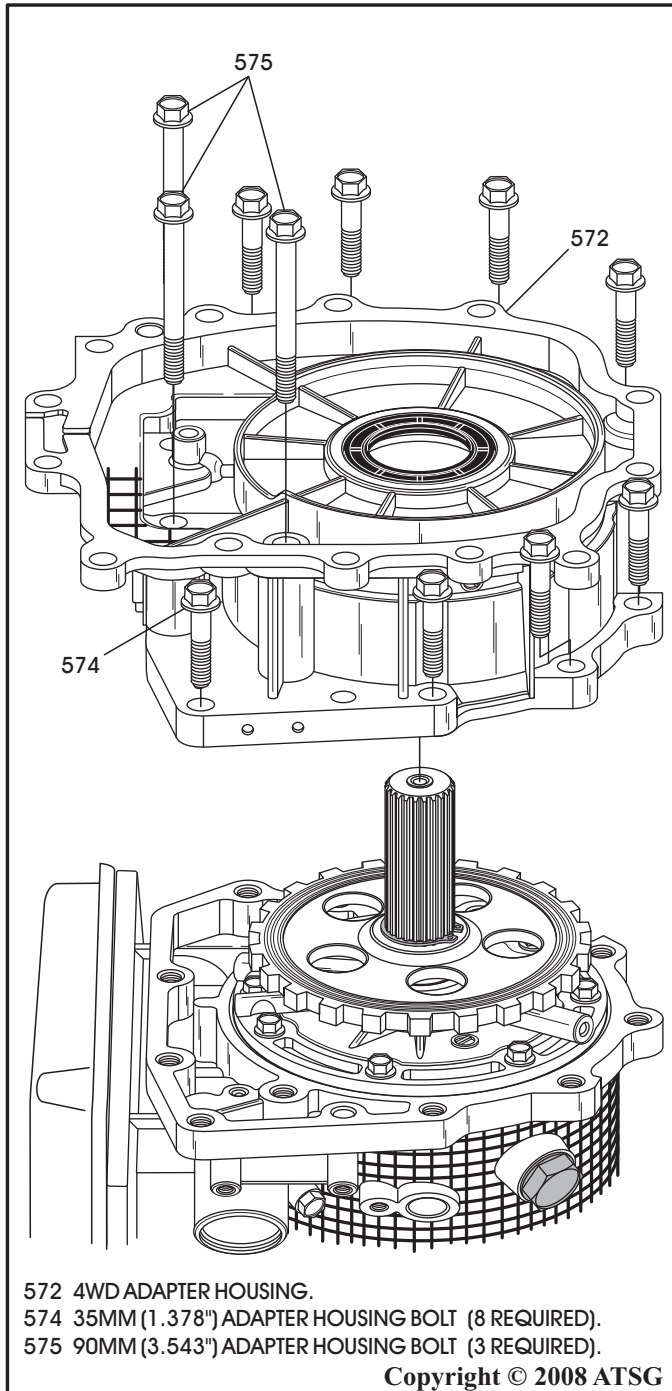

Figure 30
9. Remove the 4WD adapter housing, as shown in Figure 30, or the 2WD extension housing. Both are similar in their removal, and bolt locations and lengths are the same on both versions.